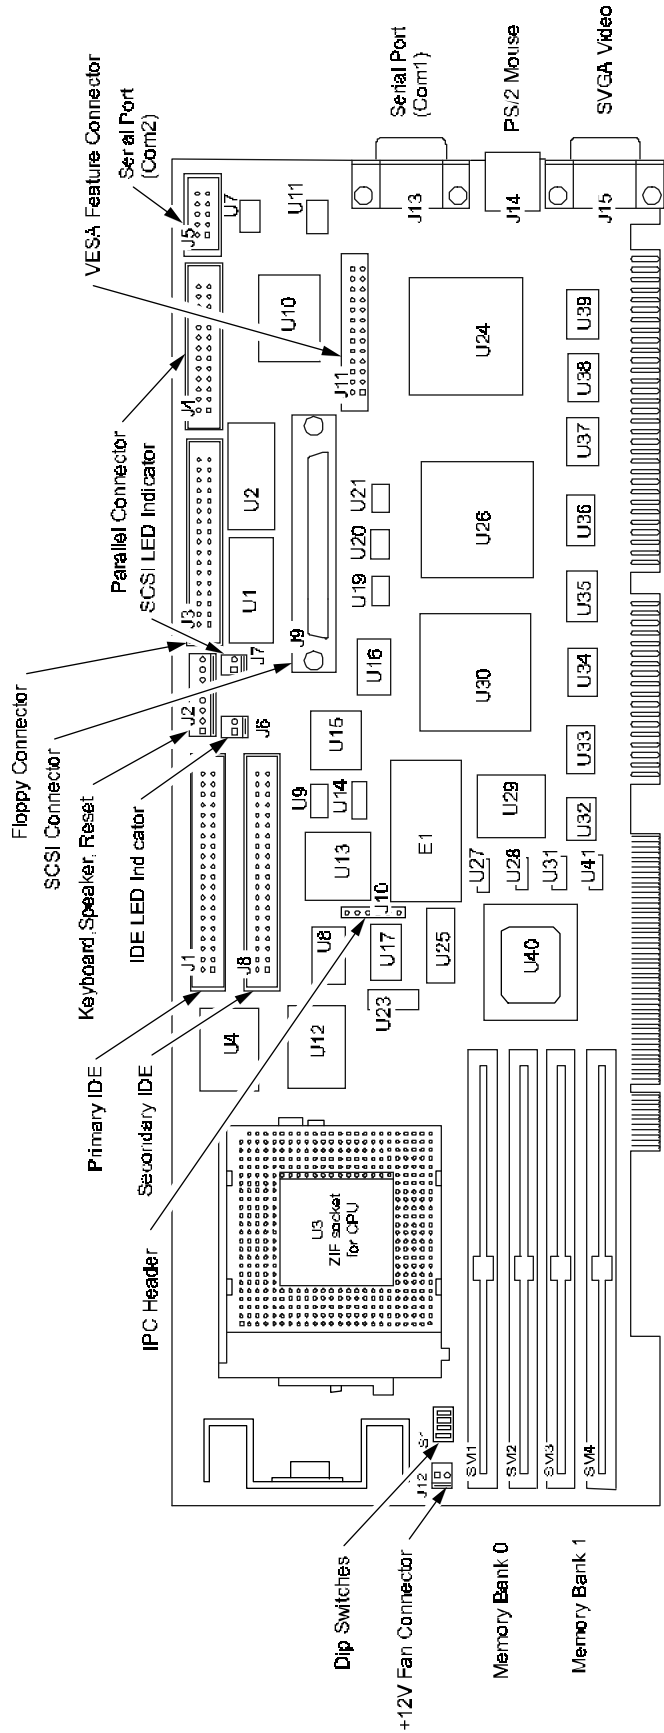

Figure 1-1: Board Layout
2. Align the CPU with the ZIF socket. Note that pin in the upper right corner of the socket (see Board Layout Drawing, **Figure 1-1**), has no insertion hole. Be sure that the corner of the CPU that lacks that pin is aligned with that corner. Note that when properly aligned, the 'cut' corner of the CPU will align with the corner of the ZIF socket next to the end of the lever.
A DIP switch is provided on the SB586T to clear CMOS (and thereby the password), set the bus speed for the CPU, and enable the on-board Watch Dog Timer. It is located just above the RAM memory sockets. For an illustration of the location of the DIP switch on the board, please refer to **Figure 1-1**.